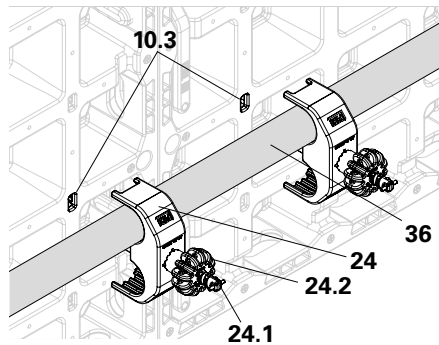

Fig. A3.10a
3. Tighten the DUO tube holder (**24**) with the DW 15 grip (**24.2**). (Fig. A3.10a)